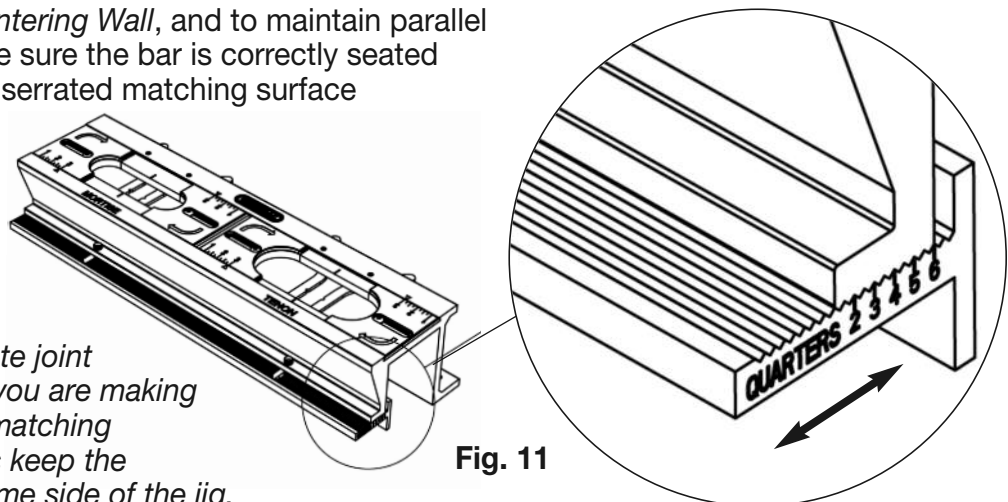

Fig. 11
- The markings are on the tenon end of the *Centering Wall* [4A]. Use these "quarter" units to adjust for the thickness of your stock in "quarters". For example: if you are using 3/4" (three quarter) stock, align the number "3" with the inner wall of the jig (Fig. 11), and the stock will be at its nominal center in the templates.
- When adjusting the *Centering Wall*, and to maintain parallel alignment, always make sure the bar is correctly seated on the jig body with its serrated matching surface [4B] (Fig. 11) in the jig.